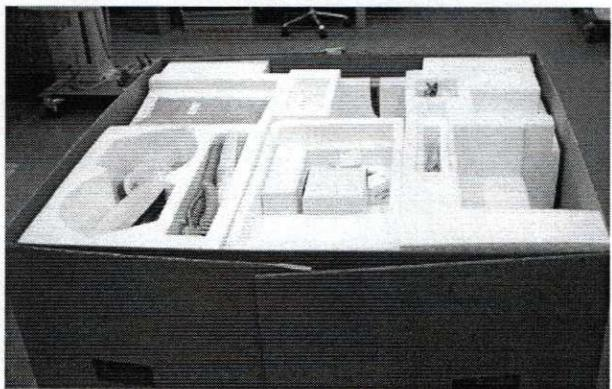

Fig 3.12.
3. Locate and collect all accessories (fig 3.12), check them against packing list enclosed and set them aside.